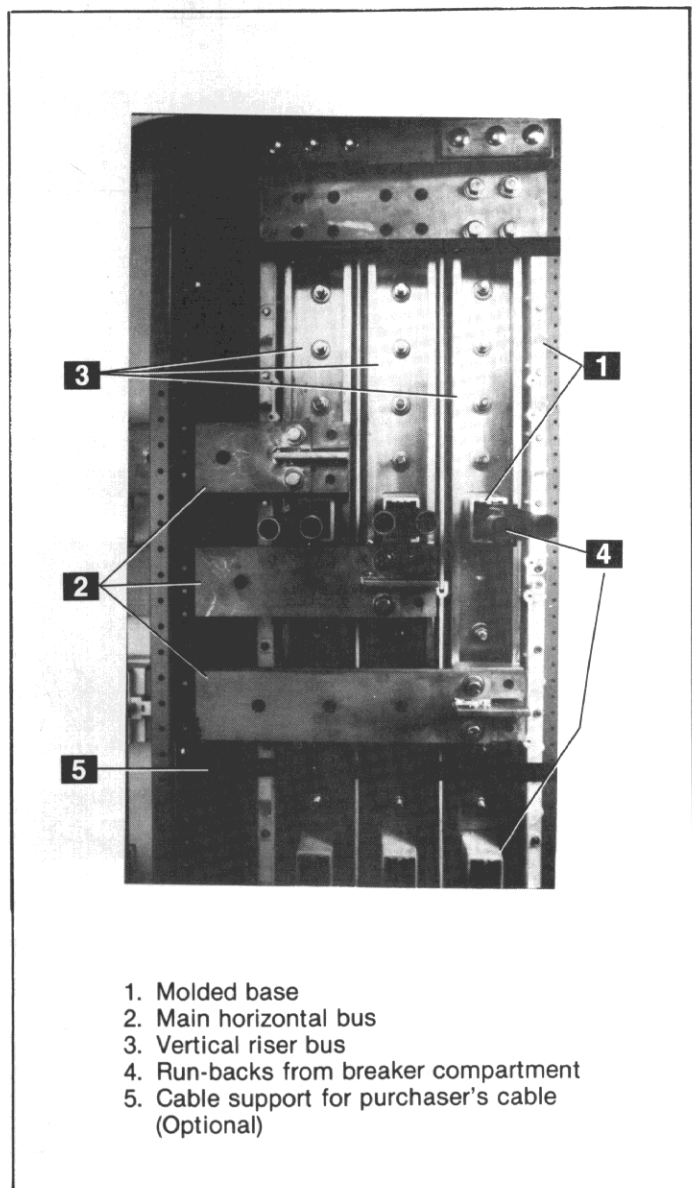

Fig. 3-22. Bus construction
The bus area, Fig. 3-22, contains the main horizontal bus (2) and vertical riser busbars (3) for the particular section. The vertical busbars are nested in and bolted to recesses molded in the back of the glass-filled polyester bases (1) which form the rear wall of the breaker compartment. The horizontal busbars are supported on power connector blocks welded to the vertical busbars. All bolted supports and connections are accessible from the rear for maintenance. The bus area is fully isolated from the breaker, instrument and auxiliary compartments by the molded bases or glass polyester sheet.